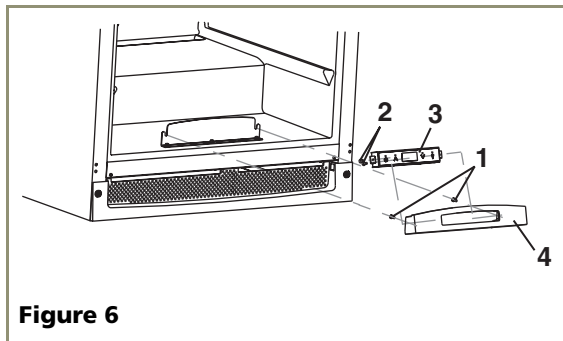

Figure 6
1. Loosen the two screws holding the controller to the mounting bracket (**Figure 6, 1**).
2. Lift the controller housing (**Figure 6, 4**) and then rotate forward to expose the wiring harness on the back.
3. Disconnect the wiring harness from the controller (**Figure 6, 3**).
4. Remove the two screws holding in the controller housing (**Figure 6, 2**), then remove from wood.